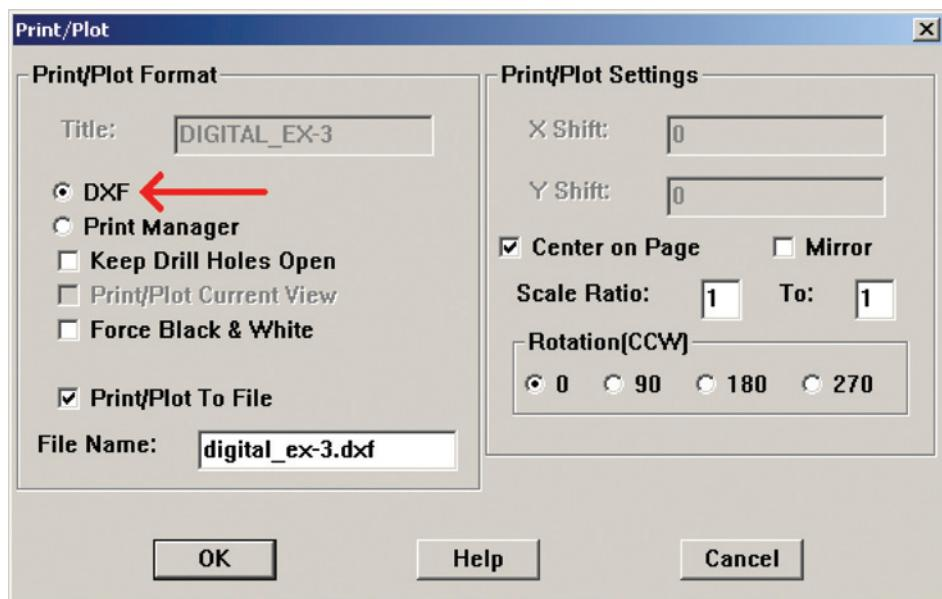

Figure 11-43 Using Print/Plot to create CAD drawing data.
**To export a PCB design as a .DXF file**, from within Layout, select **Print/Plot** from the **File** menu to display the **Print/Plot** dialog box (Fig. 11-43). Select the **DXF** radio button, choose a name, and click **OK**. That is all there is to it.